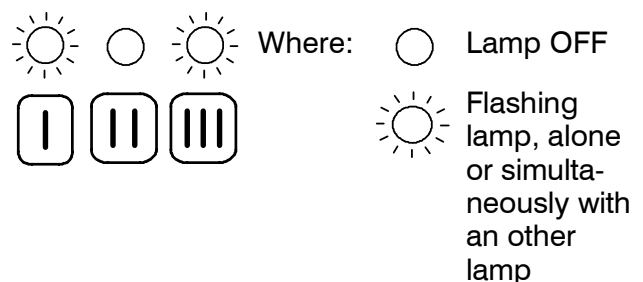

Fig. 7.8
- 7 Keep pressed the reset button 7 for about 5 seconds. The boiler runs in C.h mode and the lamp 6 is switched OFF. The lamps 10 give the indication as in Fig. 7.8